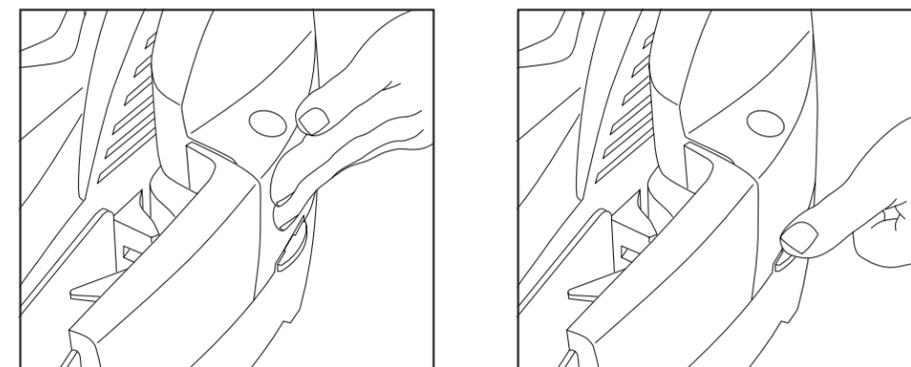

Figure 4. Closing the Unit
1. Push to close the access door (Left or Right) to its normal operating position (as shown in Figure 4).
3. Push down on the tab of the access door (as shown in Figure 4) If the tab was not latched, a “click” sound will be heard as feedback to indicate the access guide is securely closed.